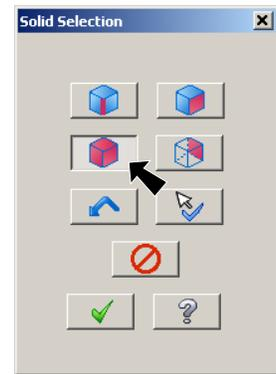

Fig. 24
Step 2. In the Solid Selection dialog box, select **Solid** and unselect others, **Fig. 24**.